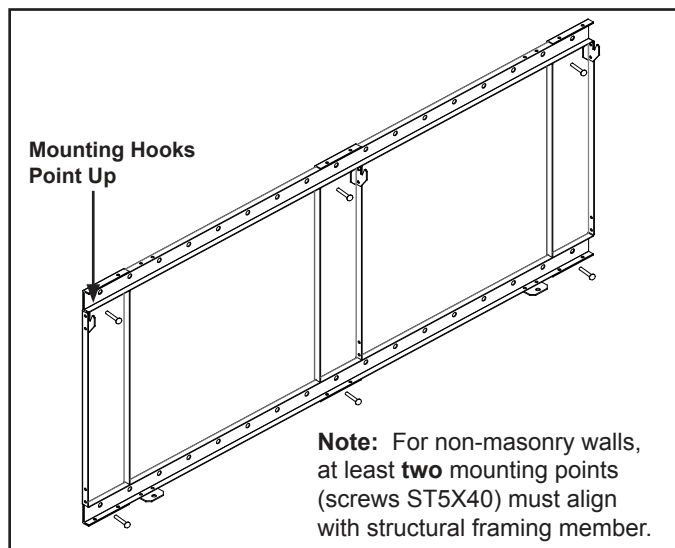

Figure 31. Bracket Attachment
- With mounting hooks pointed up, attach the bracket to the masonry anchors with ST5X40 screws. See Figure 31.